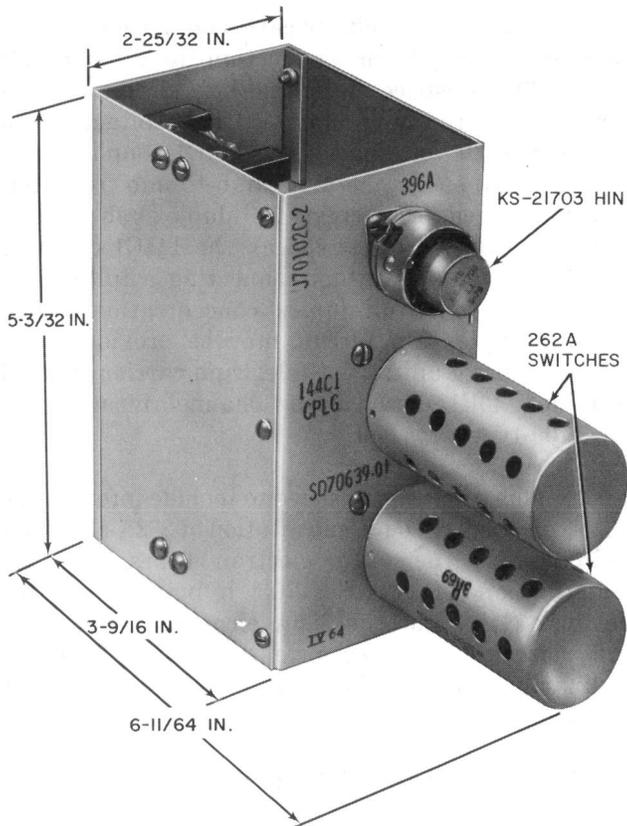

Fig. 1—144C1 Coupling Unit Equipped With KS-21703 HIN and 262A Switches
2.01 The 144C1 coupling unit is a plug-in type unit arranged to mount on a shelf-type mounting plate equipped with a receptacle through which external connections are made. The plug-in feature permits rapid removal and replacement of units for maintenance. The unit is 5-3/32 inches high, 2-25/32 inches wide, and 5-57/64 inches deep when equipped with two 429A electron tubes and one 396A electron tube. In order to eliminate the power required for the tube heaters, the 429A tubes are replaced with 262A switches, and the 396A tube is replaced with a KS-21703 HIN. Figure 1 shows the 144C1 coupling units' physical dimensions when equipped with the KS-21703 HIN and 262A electronic switches. The unit is encased in an aluminum chassis open at the top and bottom to